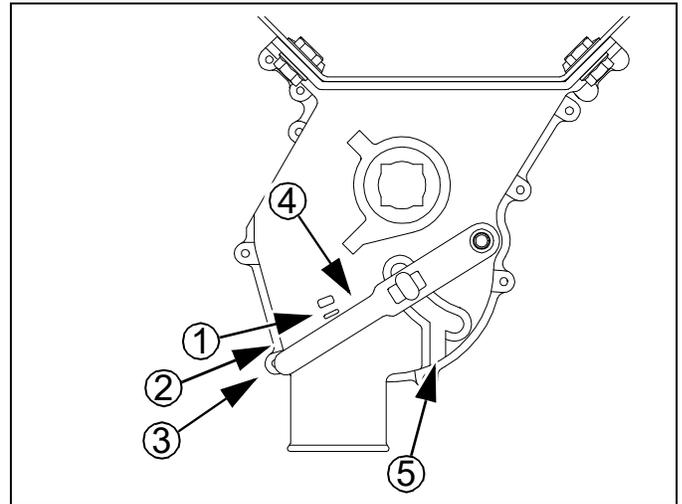

Figure 83
Refer to *Figure 83*, which depicts the seed cup door handle in position ③.